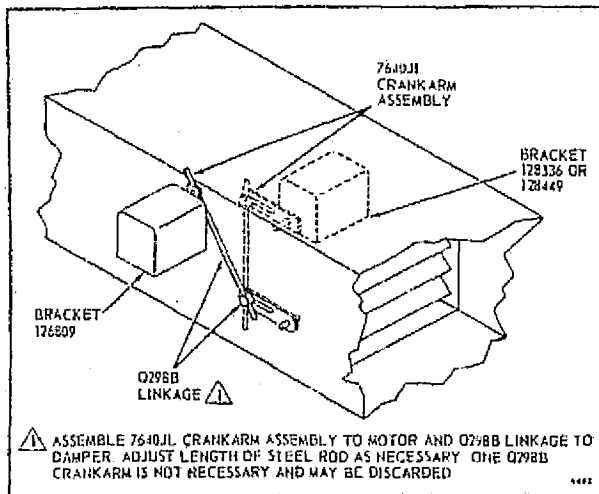

FIG. 6—OFFSET MOUNTING WITH 7640JL CRANK ARM ASSEMBLY AND Q298B LINKAGE.
7. Q298B Linkage-damper crank arms, bushings, 1/4 inch [6.5 mm] steel rod, and ball joint assemblies (Fig. 6).